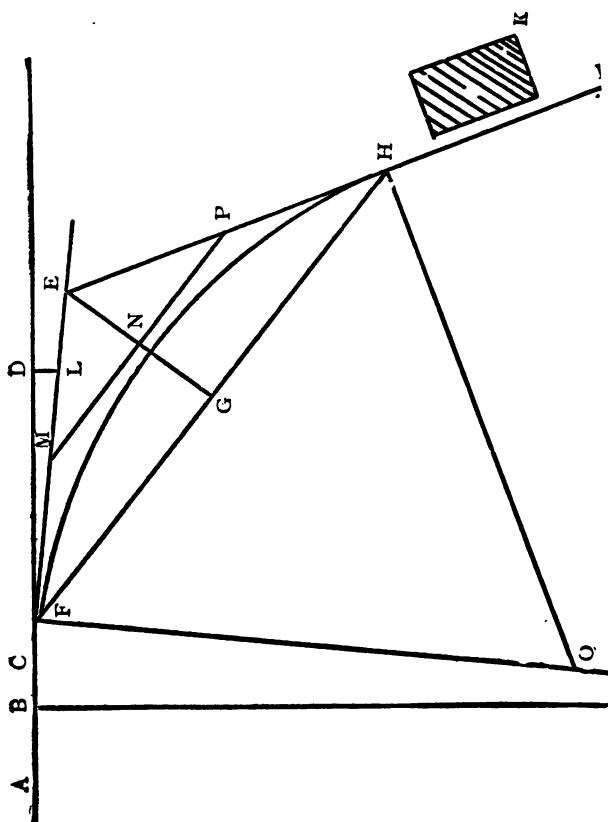

Fig. 22.
8. In Fig. 22, it is required to lay a permanent track to a warehouse at K, from main line, A D.